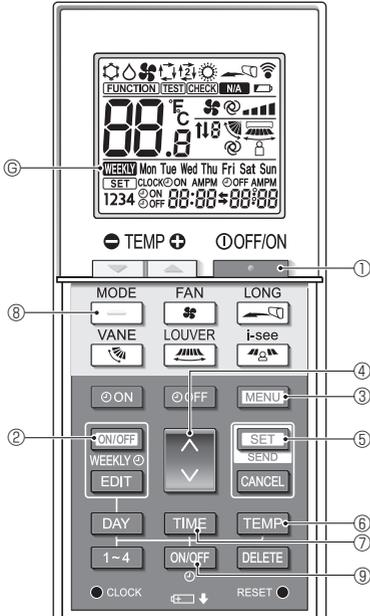
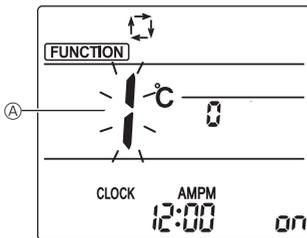
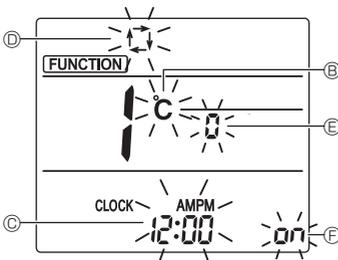

Fig. 5-1
Fig. 5-2
Fig. 5-3
5.1. Switching to the initial setting mode (Fig. 5-1, Fig. 5-2)
- Press the button ① to stop the air conditioner.
- If the weekly timer is enabled, press the button ② to disable the timer. (③ disappears.)
- Press the button ③.
- The Function setting screen will be displayed and the function No. ④ will blink.
- Press the button ④ to change the function No.
- Check that function No. "1" is displayed, and then press the button ⑤.
5.2. Changing the temperature unit (Fig. 5-1, Fig. 5-3 Ⓐ)
- Pressing the button ⑥ changes the temperature unit (°C / °F). (The factory setting is "°C".)
5.3. Changing the time display (Fig. 5-1, Fig. 5-3 Ⓒ)
- Pressing the button ⑦ changes the time display (/). (The factory setting is "12-hour format".)
5.4. Changing the AUTO mode (Fig. 5-1, Fig. 5-3 Ⓓ)
5.5. Changing the pair No. (Fig. 5-1, Fig.5-3 ㊦)
(Fig. 5-1, Fig. 5-3 ㉔)
(Fig. 5-1, Fig. 5-2)